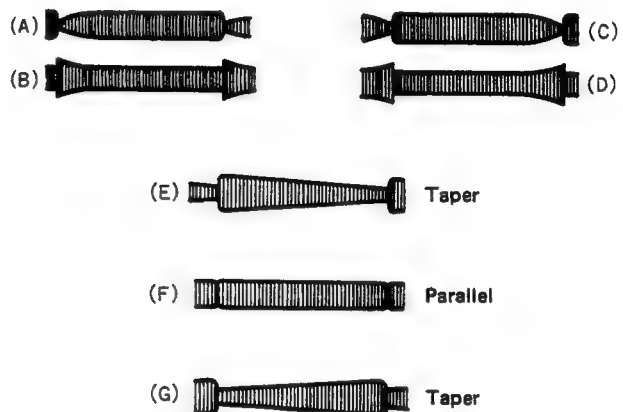

Fig. 2-31 FM waveform at minimum output
13. Turn the tracking control for minimum FM waveform output. If the waveform appears as shown by the examples (A), (B), (C) or (D) of Fig. 2-31, fine-adjust the supply and take-up guide rollers to obtain a waveform as shown by examples (E), (F) and (G).